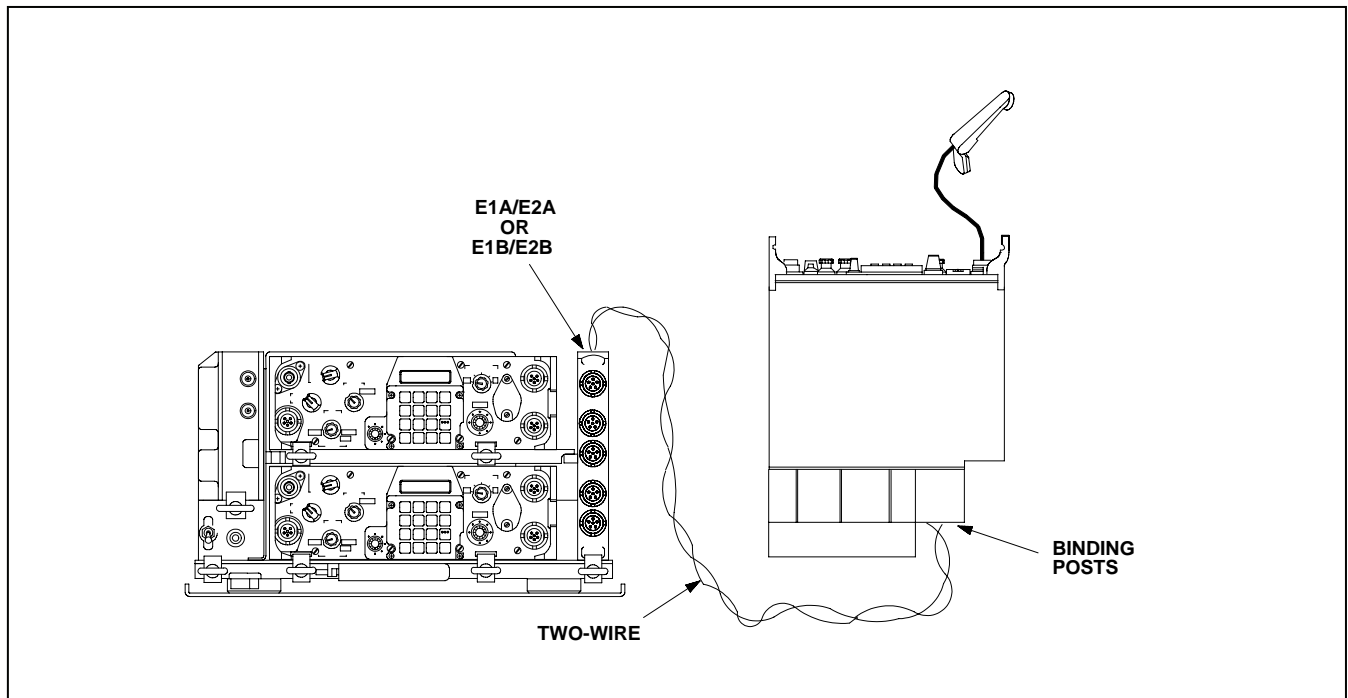

Figure 4-25. DISMOUNTED RCU TO A VEHICULAR RADIO
- Dismounted RCU to a vehicular radio. (See Figure 4-25, below)